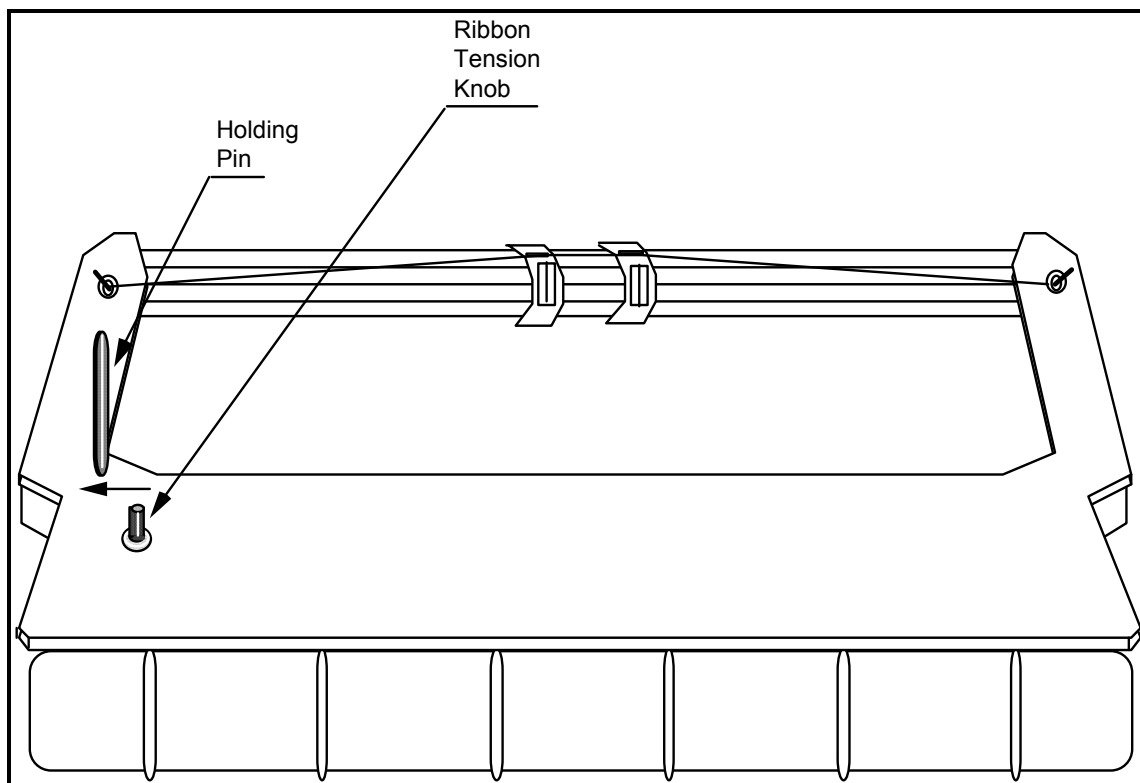

Figure 18-5 — Ribbon Cartridge
- Step 6. Remove and discard the holding pin from the cartridge (Figure 18-5).
- Step 7. Turn the ribbon tension knob (Figure 18-5) in the direction indicated by the arrow, until the ribbon is taut.